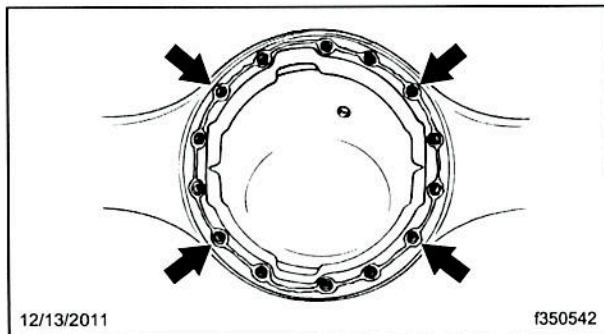

Fig. 7, Fastener Locations
10. Install nuts and washers or capscrews and washers, if equipped, into the locations shown in Fig. 7, and hand-tighten the fasteners.